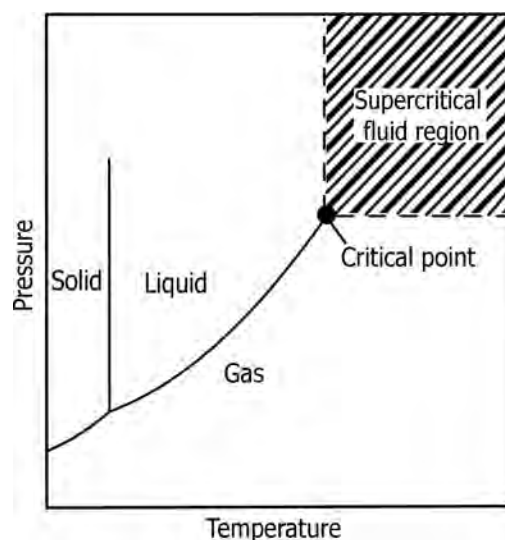

FIGURE 17.50 Pressure-temperature diagram for a pure compound.
- Figure 17.50 illustrates supercritical region on the phase diagram for a solvent. It is a plot of temperature versus pressure, showing the equilibrium coexistence of two phases along the *phase boundaries* separating different regions.